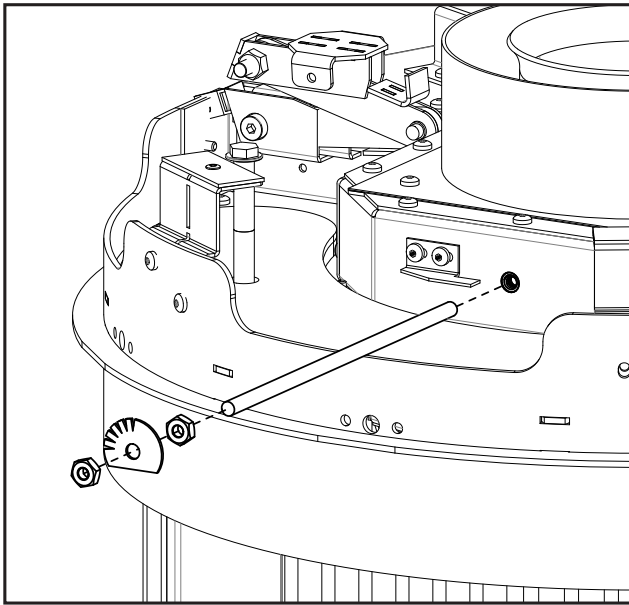

Figure 67: Restrictor Rod Removal
6. Remove the threaded rod from the exhaust spigot (see Figure 67). A power drill with a 7/16" socket and extension will be helpful here.